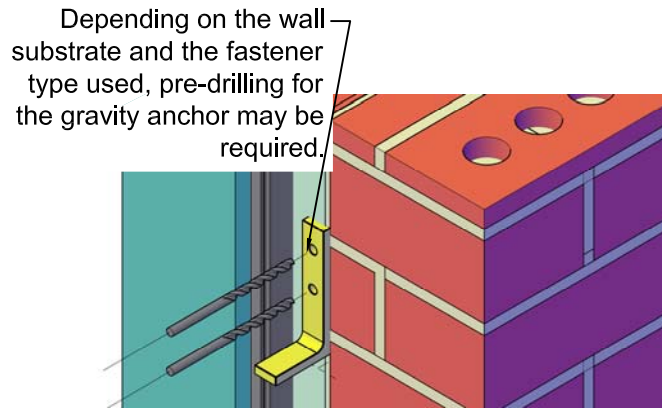
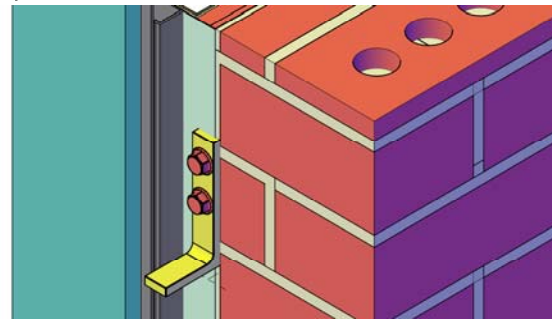

Fig. 4
Fig. 5
4) If the windows are installed without receptors, determine if the fastener used will require pre-drilling of the wall substrate. Pre-Drill wall substrate as required. Attach the gravity anchor to the wall substrate and secure with fasteners. See Fig. 4 & Fig. 5